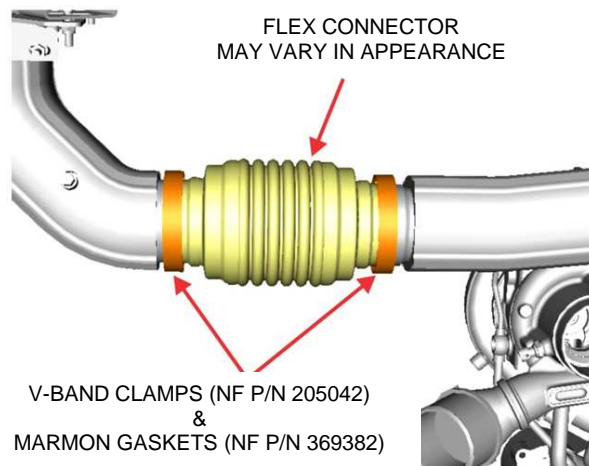

Figure 1: Exhaust Flex Connector
3. Locate the exhaust flex connector. See Figure 1.